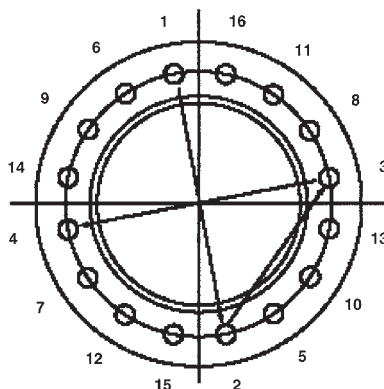

Fig. 16
6.3.3 When it is necessary to substitute and/or connect the head's cover of the heat exchanger it is necessary to apply the torque indicated in table 1. The values are for lubricated surfaces of bolts and studs. The tightening must be done evenly operating on diametrically opposite bolts as Fig. 16.